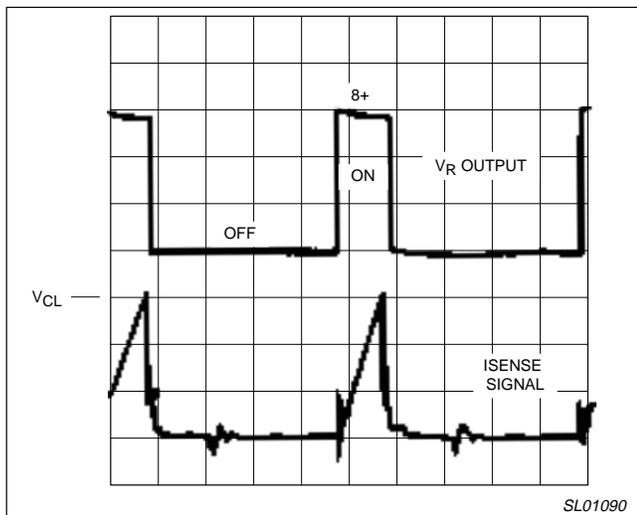

Figure 3. Current Sense Waveform
**Pin 3: Current sense comparator.** The current sense signal provides cycle-by-cycle monitoring of primary switching current in order to provide an active duty-cycle control loop. Figure 3 shows the current sense waveform at Pin 3 versus the output waveform at Pin 6. The Pin 3 maximum voltage to provide current limiting is 1V referenced to ground. When the sense voltage reaches the 1V level, current in primary will no longer increase with increasing load at the supply output, but will allow output voltage to decrease with increased load keeping output current constant.